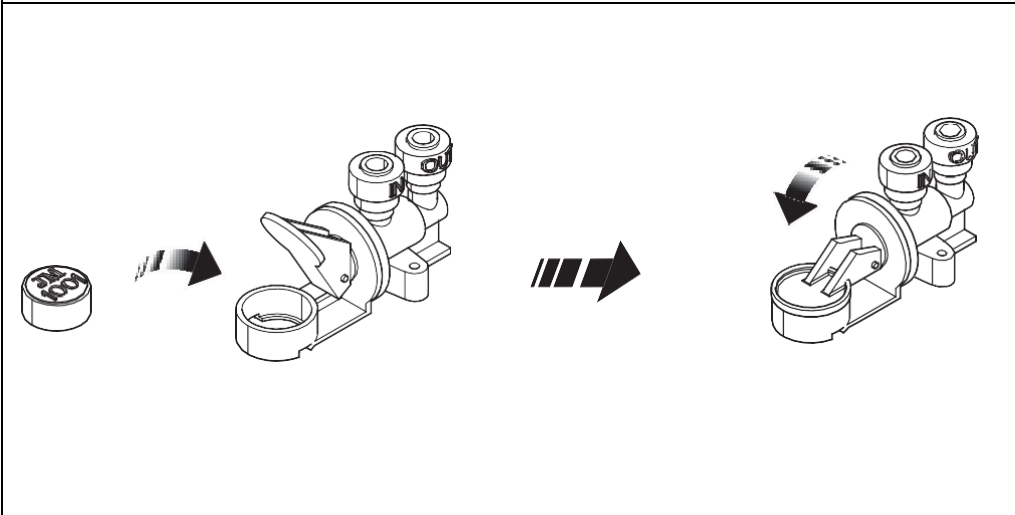

Fig 30
2. Verify that the valve has been activated by checking the orientation of the valve arm. If the pad has expanded and the valve arm is in the upper position (Fig 30), the valve has been activated.